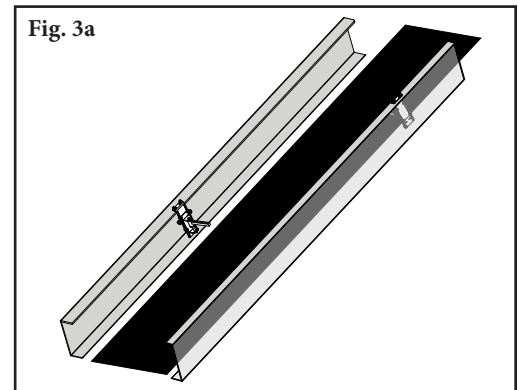

Fig. 3a
3. **Attach the mounting pin/arm to the mounting drop bracket.** Using the belt line as reference, locate the mounting bracket such that the lower flange is no less than 1" (25mm) above the belt. Installing at this height ensures the plow can slide down the pin as the blade wears then bottom out on on the lower flange before the plow frame comes into contact with the belt (Fig. 3a & 3b).